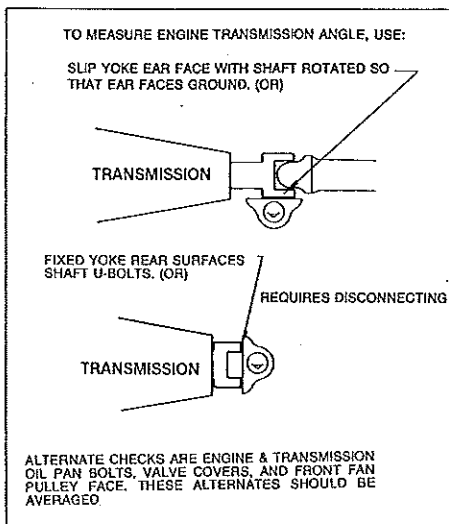

Fig. 3 Measuring Engine/Transmission Angle
3. Check and record the engine-transmission angle (angle 2) see fig. 3.